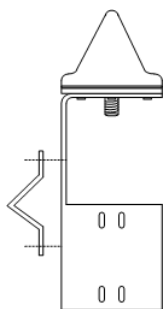

Figure 5.20 Connecting the cable of the GPS antenna
5. Connect the cable of the GPS antenna to the corresponding connector on the bottom of the GPS antenna, refer to Figure 5.20.